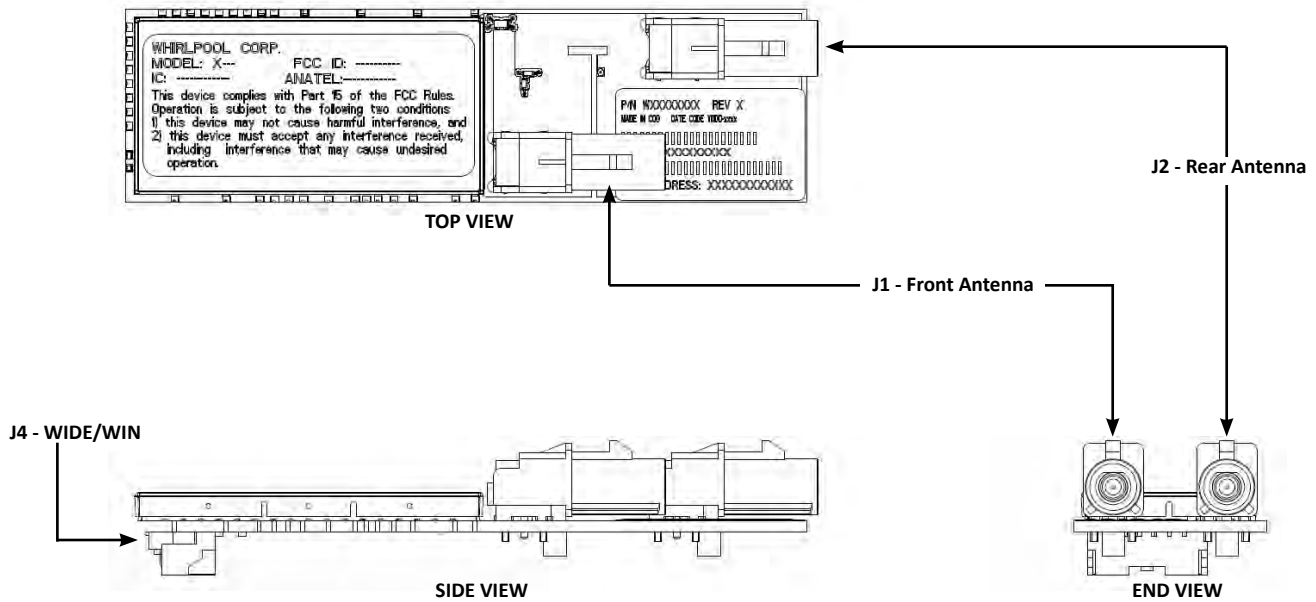

Figure 6 - WiFi Processor Board Layout
5. **Check Connections**—Confirm that all connections to the WiFi Module are securely installed, including WIDE/WIN, and if applicable, the Front & Rear Antennas. Refer to Figures 6 and 7 (page 4-16) to reference connections.